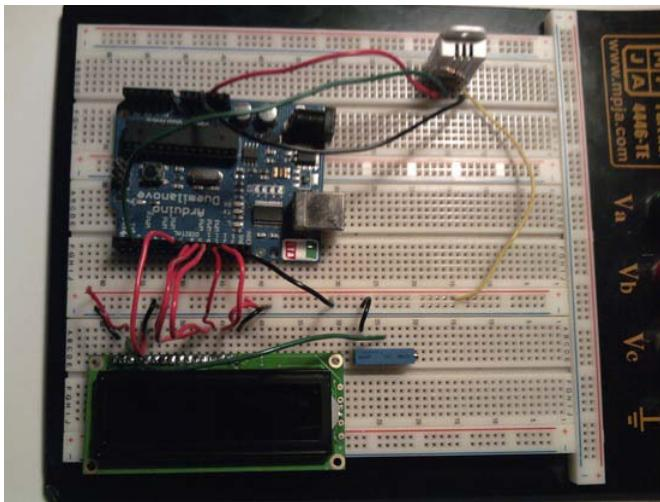

Figure 6-21. Hardware configuration for this project
12. Connect pin 4 on the DHT22 to ground on the Arduino. Figure 6-21 illustrates the hardware configuration for this project.